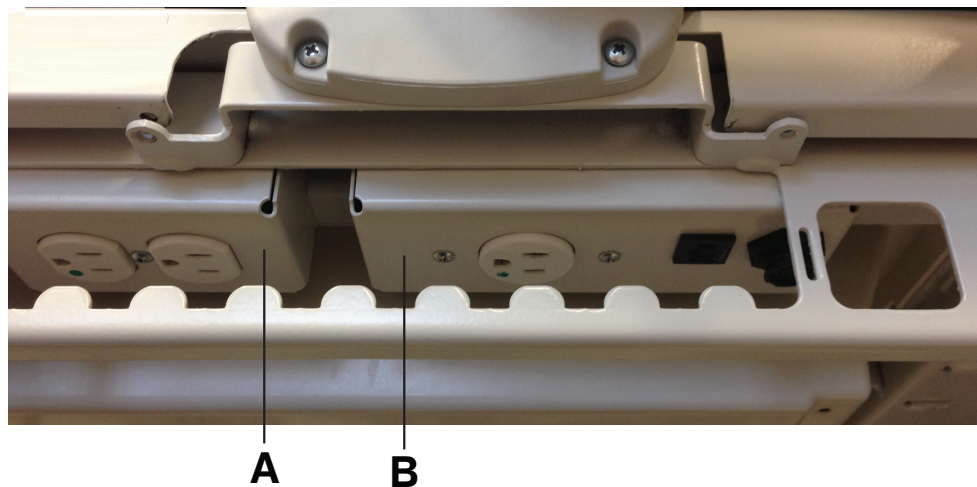

Figure 12: Optional InTouch auxiliary outlets
You can use the 110 volt **InTouch** auxiliary power outlet as a built-in power source for peripheral equipment. The outlet is located beneath the foot end on the patient left side of the product (A) (Figure 1 on page 10). There is a one and two plug option for the **InTouch** auxiliary outlet (A) (Figure 12 on page 27).
There is also an auxiliary mattress connector outlet for connecting a support surface option to InTouch (B) (Figure 12 on page 27). A 5A breaker is also integrated into this power outlet.